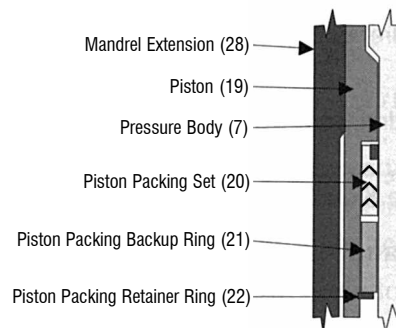

Figure 8-5: Piston Packing Set Installed
5. Piston (19) Packing Set: Install the Piston Packing Set (20), Piston Packing Backup Ring (21), and the Piston Packing Retainer Ring (22) in the Piston (19) OD, as seen in Figure 8-5 below. Put the Piston (19) aside for installation later on in this procedure.